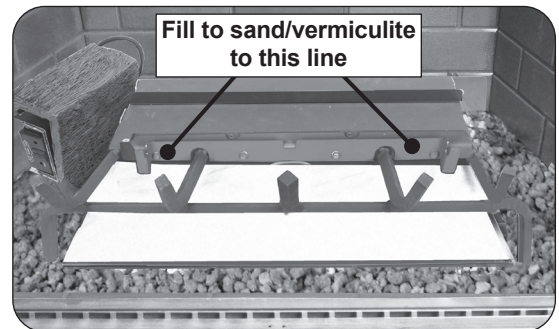

Fig. 16-3 Place sand/vermiculite
1. Fill the burner pan completely with the sand/vermiculite (see Fig. 16-3). **Avoid spilling the sand/vermiculite on the pilot assembly.**